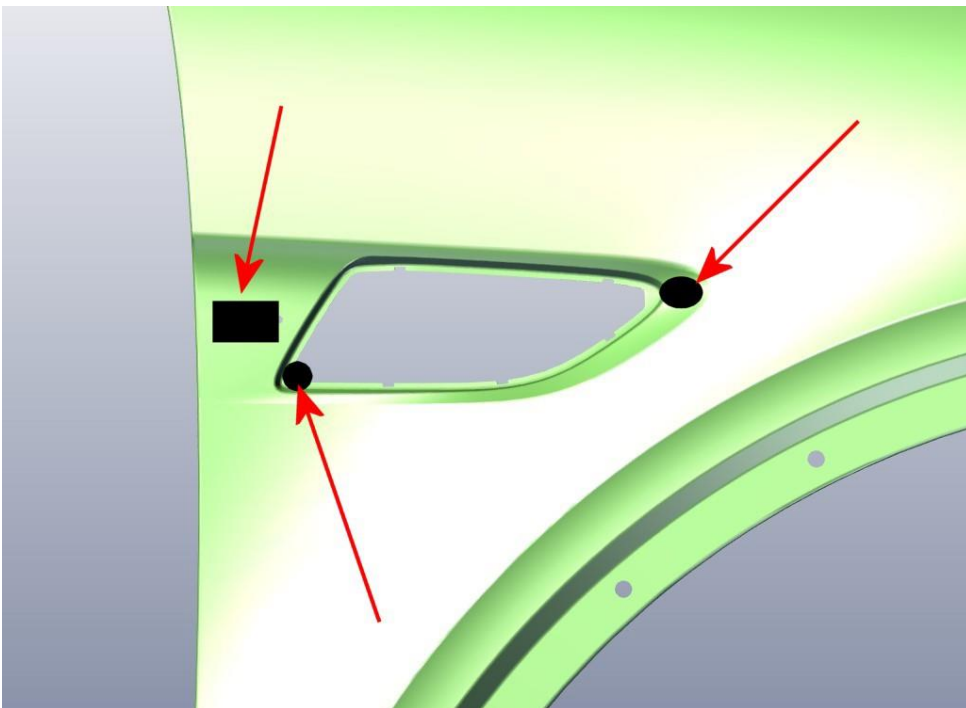

Figure 3
- 3) Using the adhesive as per the Parts information section - Apply the adhesive in the three locations shown in Figure 3